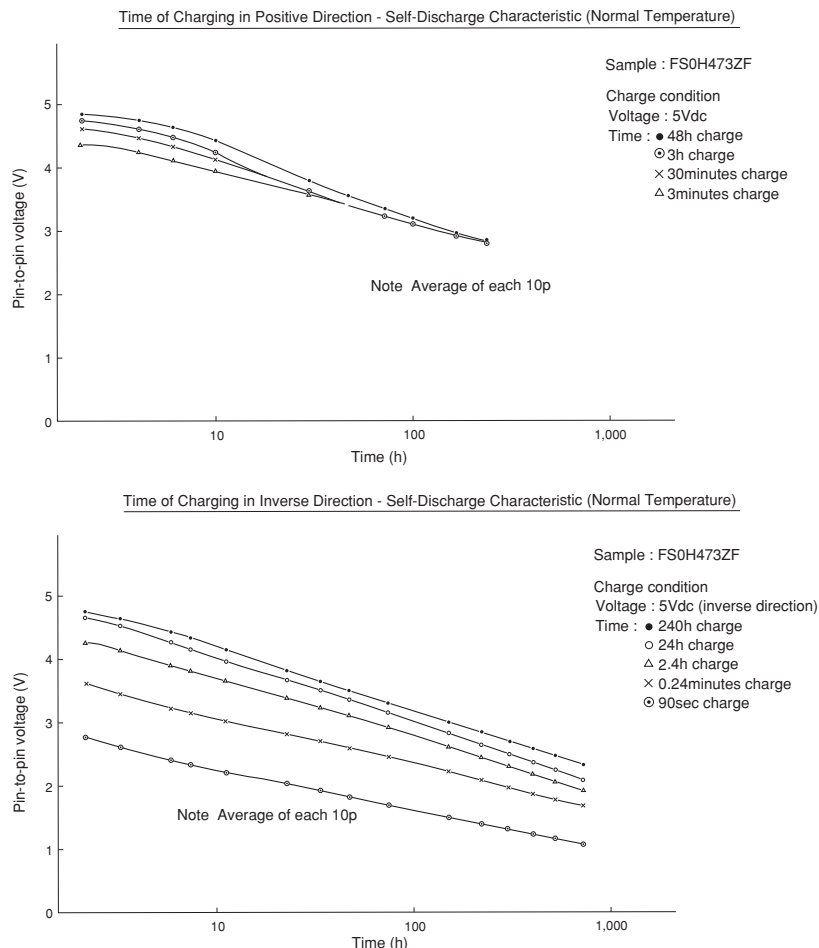

Fig. 46 Voltage Retention Characteristic for Normal and Inverse Connections
(1) There is no influence on the long-term reliability of a Super Capacitor.
(2) In the manufacturing process, the Super Capacitor is processed with a voltage applied in the positive direction. For this reason, there may be cases where a small amount of charge still remains. There is also a Super Capacitor specific phenomenon in which a voltage which was previously applied returns. Special care is required to avoid damage to semiconductors, etc. which are vulnerable to an inverse voltage.
(3) Figure 46 shows the voltage retention characteristic for normal and inverse connections. It is seen from Figure 46 that the voltage retention characteristic deteriorates. However, even in the case of inverse connection, if the time of inverse charging exceeds 100 hours, it shows the same self-discharge characteristic as charging in the positive direction.